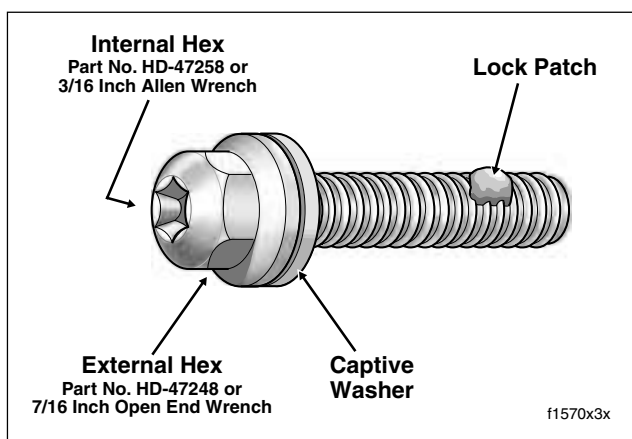

Figure 3-20. Rocker Cover Bolt (1-1/4 Inch)
*If the engine is left in the chassis for service, use the **ROCKER COVER WRENCH (HD-47258)** and **ROCKER HOUSING WRENCH (HD-47248)** to remove the rocker cover and rocker housing bolts, respectively. These tools are especially useful when removing the bolts on the left side of the engine (particularly the rear) where there is close proximity to the frame. With both an external and internal hex, the bolts also can be removed with either a 7/16 inch socket or open end/box wrench (open spaces), or a short 3/16 inch allen wrench (tight spaces). See Figure 3-20.*